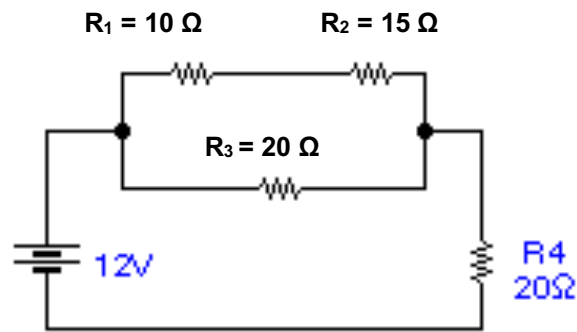

FIGURE 5
9.5 Refer to FIGURE 5 below and answer the question. (2)